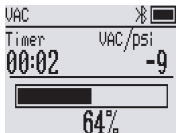

Figure 7 Vacuum test interface
5.The interface (Fig. 7 ) displays the current pressure value of the system, the vacuum degree of the system and the timing of entering this interface.